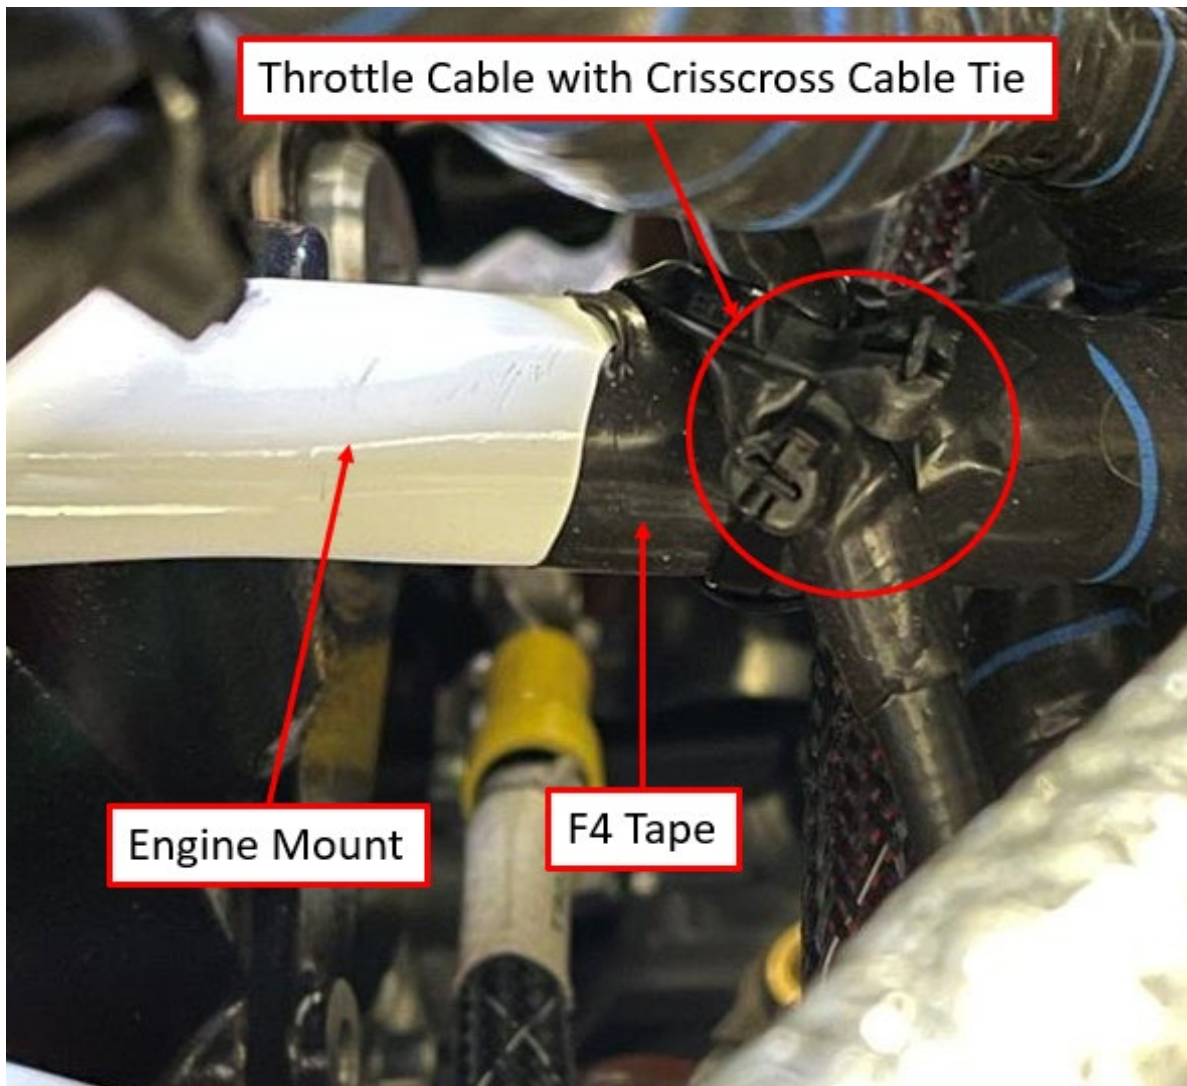

Figure 5 Two Throttle Cable Ties at Engine Mount
- a. See Figure 5.
NOTE: There must be **two** cable ties securing the throttle cable to the engine mount. If there is a $\frac{1}{4}$ " or greater clearance and only one cable tie securing the throttle cable to the engine mount, then another cable tie must be installed as shown in Figure 5.